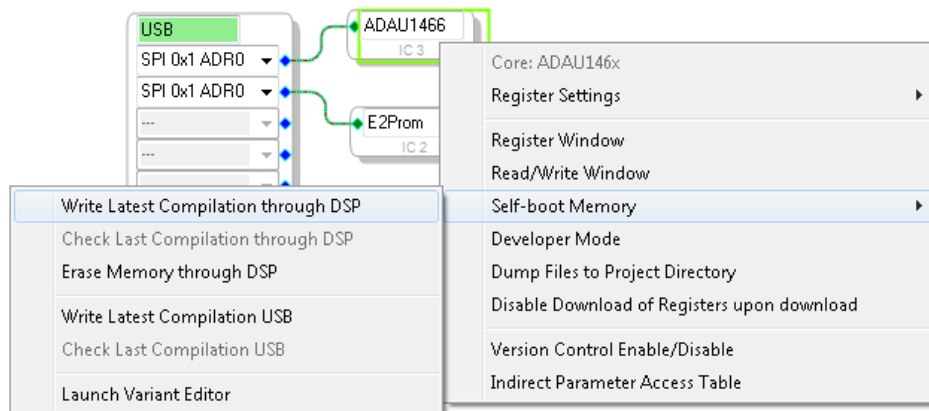

Figure 70. Writing to the EEPROM Through the ADAU1466 Master SPI Port
6. Right click the empty white space in the ADAU1466 IC block in the **Hardware Configuration** tab of SigmaStudio. From the menu that appears, select **Self-boot Memory**, then **Write Latest Compilation through DSP** (see Figure 70).